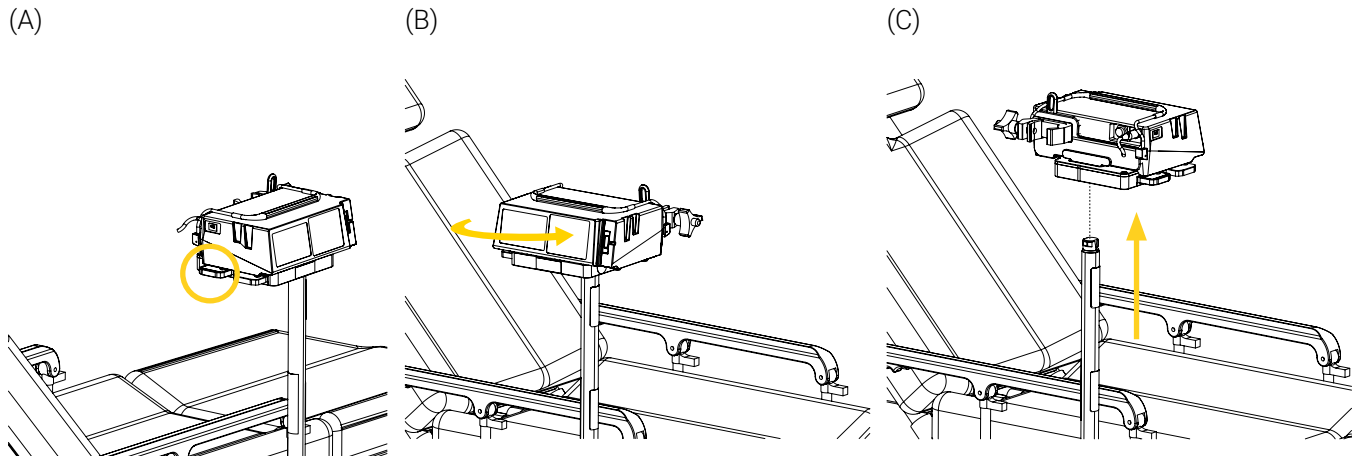

Figure 14: Removing the NVM Support Bracket from the pole
1. Press and hold the rotation/quick release button on the NVM Support Bracket (Figure 14 A), turn it clockwise or counterclockwise 180° until it reaches its initial position with the button facing patient foot end (Figure 14 B), then pull the bracket upwards to remove it from the pole (Figure 14 C).